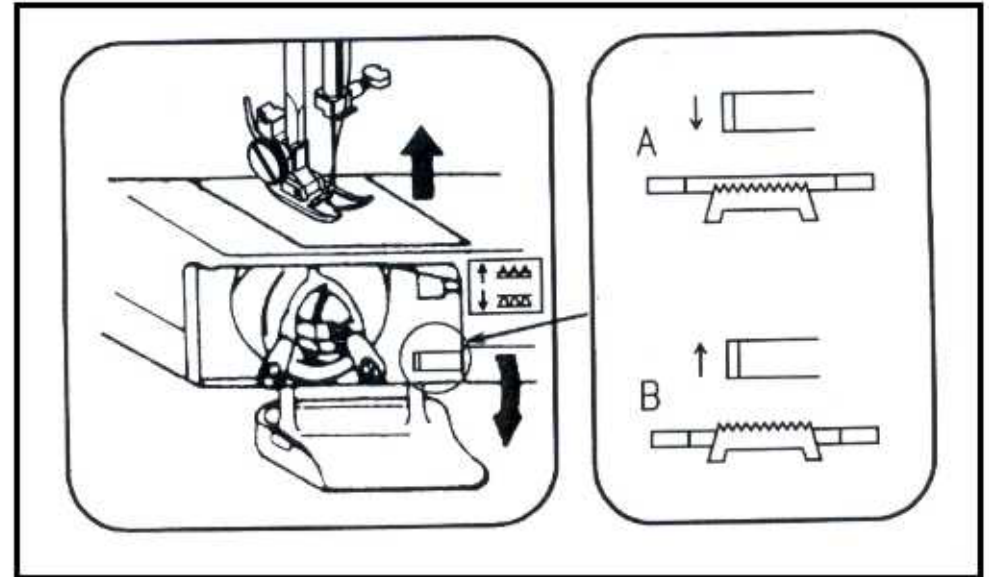

Fig. 1
- B. Push feed dog lever up to raise feed dog above needle plate for normal sewing. (See fig. 1)
Raise the needle to its highest position and raise the presser foot lever. Attach the presser foot holder “b” to the presser foot bar “a”. (See fig. 1)